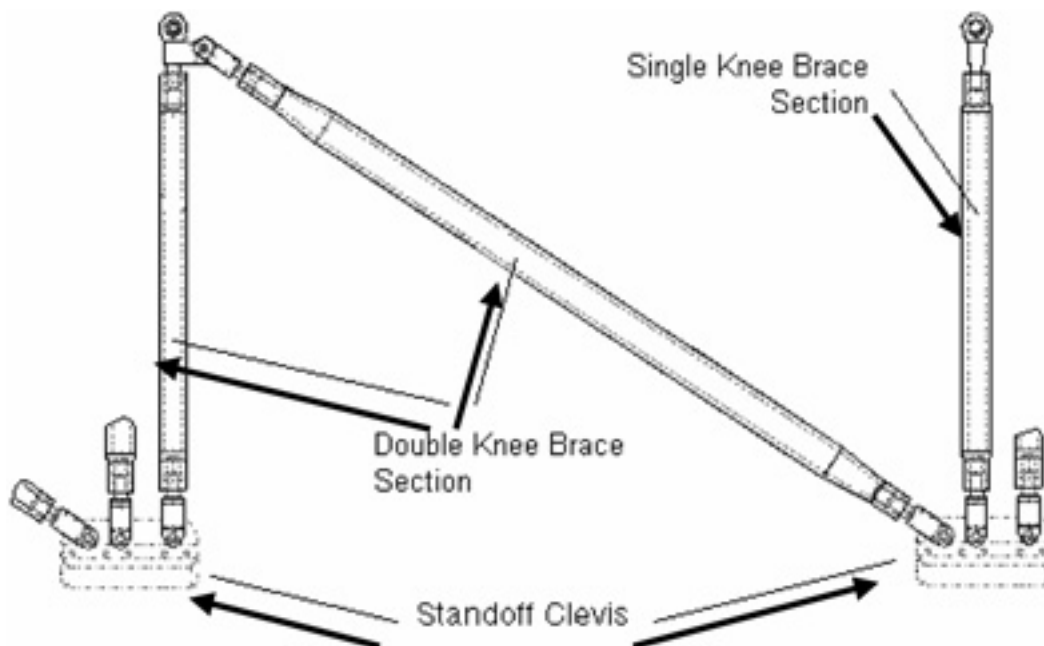

Figure 6. Rack Knee Brace Assembly.
- 5.3 Remove Knee-Brace Assembly sections (P/N 683-50249-3) by pulling captive PIP Pins (three) from Standoff Clevis. Refer to Figure 6.